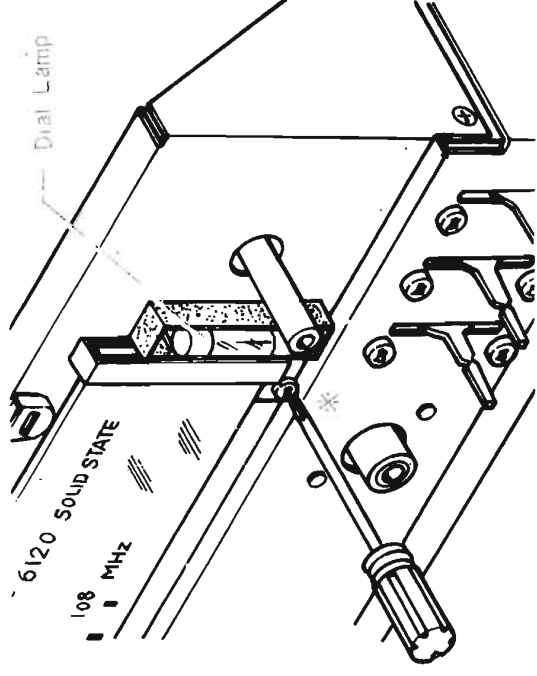

Fig. 2-8-1 Dial Glass Replacement
- (1) Remove the front panel. See Section 2-2.
- (2) Remove the screw (+RF2.6 ϕ ×5) that secures the dial glass bracket to the sub chassis as shown in Fig. 2-8-1.
- (3) Install the new dial glass.